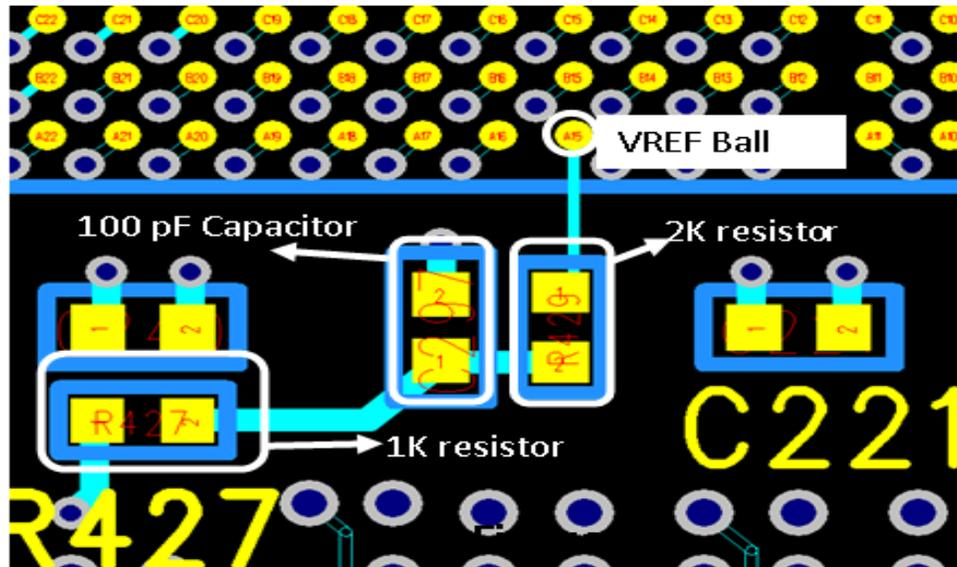

Figure 12. Recommended Placement and Routing for DMC\_VREF Filtering Network
- Place the recommended RCR network between the DMC\_VREF supply paths from the memory to the processor, as shown in Figure 12. For more details, please refer to the ADSP-SC589 EZ-Board schematics[3].